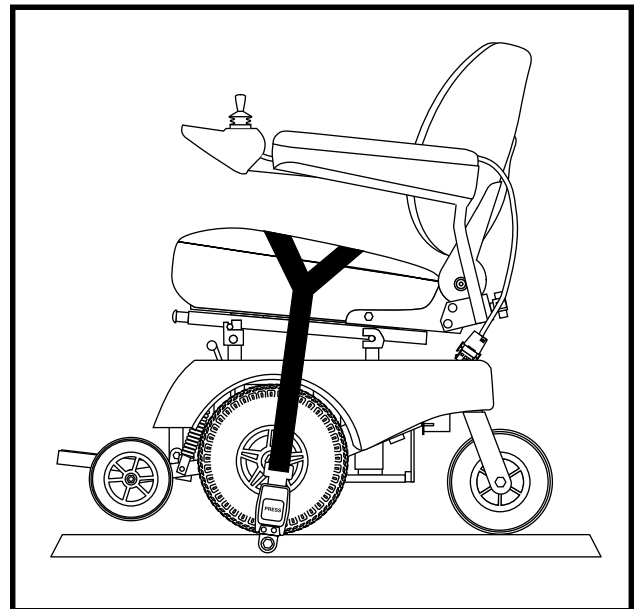

Figure 9. Y-Strap Positioning
4. Secure the mobility device to the platform by draping the Y-strap over the seat and buckling the strap securely. See figure 9.